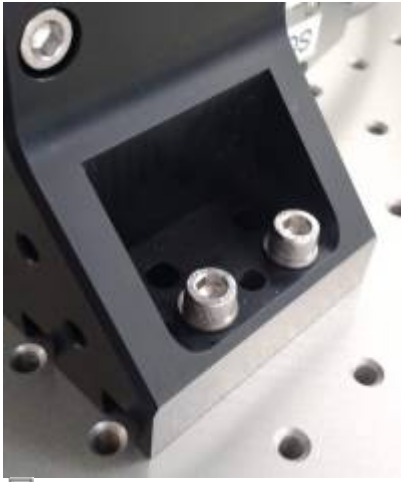

Figure 3: Stilts loosely mounted to the breadboard
- Either a metric breadboard, as in Figure 3,